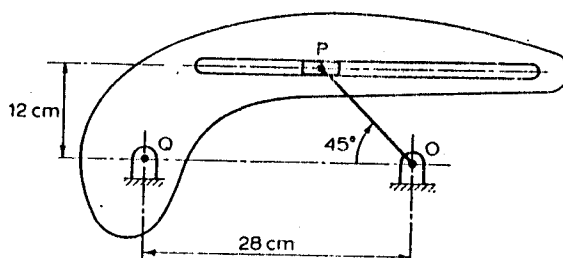

Fig. 2
3. Please determine graphically the angular velocity and acceleration of shaped component shown in Fig. 2, if the crank OP rotates with a constant clockwise angular velocity of 10 rad/s. [10]